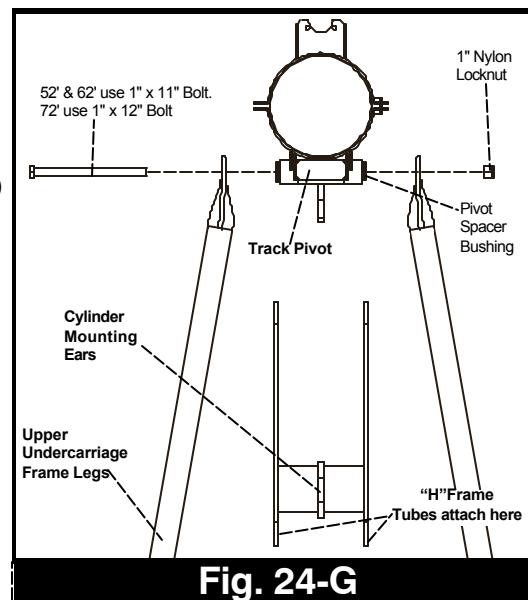

Fig. 24-G
- G. Raise the upper undercarriage frame legs fasten the H-Frame and upper legs through the track pivot tube using a 1" x 11" (grade 5) hex head cap screw and nylon locknut on 52' & 62' augers or a 1" x 12" (grade 5) hex head capscrew and nylon locknut on 72' augers. (See Fig. 24-G)